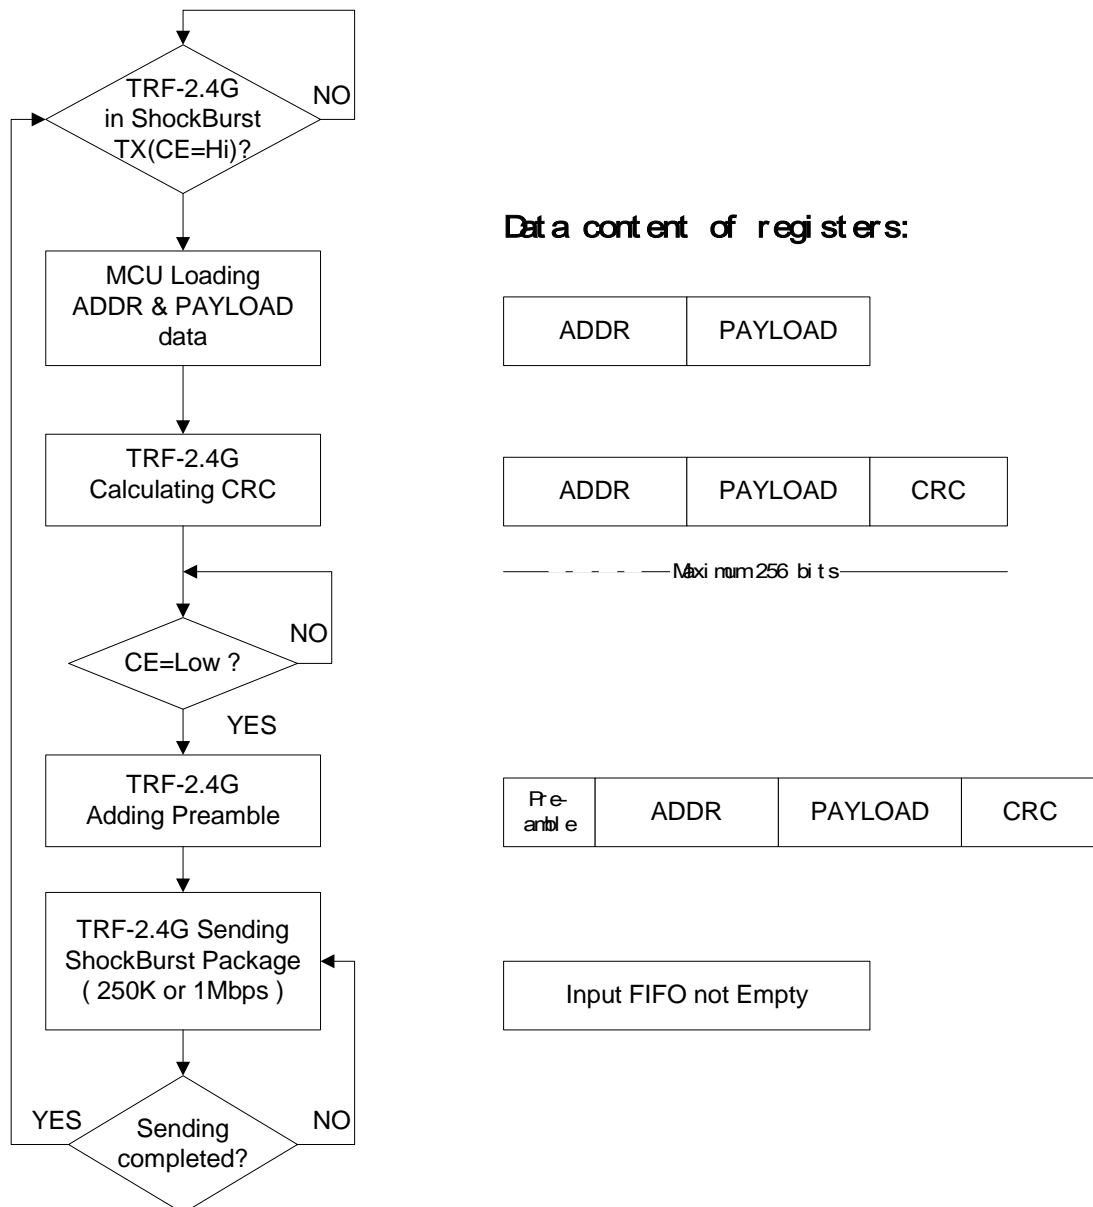

Figure 2 Flow Chart ShockBurst Transmit of TRF-2.4G
8. When all payload data is retrieved TRF-2.4G sets DR1 low again, and is ready for new incoming data package if CE is kept high during data download. If the CE was set low, a new start up sequence can begin, see Figure 2.